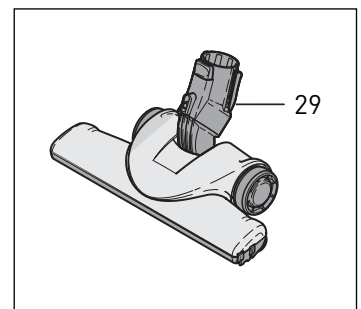

Figure 13
Premium Parquet nozzle - Figure 13
To change the filter bag (45), set the canister upright (as shown in figure 13), press the cover release catch (25) and lower the filter bag cover (26). Grasp the green filter bag sealing plate (46), slide the plate from the holder (48) and push the filter bag cap (47) on to seal the bag. Slide the sealing plate (46) of a new bag into the bag holder slots (48) and push it in firmly until it locks into place. Close the cover, making sure it snaps shut completely. You may find it convenient to store the bag cap inside the filter bag housing below the filter bag. Do not re-use the filter bags. Note: the nature of the contents of the filter bag will affect the point at which it needs changing. Fine dust may require an earlier change even though the bag is not full. Fluff or hair allows air to pass through easily, so the filter bag may overflow before the amber "bag full" light illuminates.